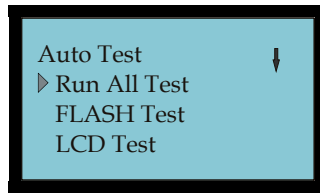

Figure 4-3 Auto Test Menu
3. Press **OK** to display the Auto Test menu (see **Figure 4-3**).